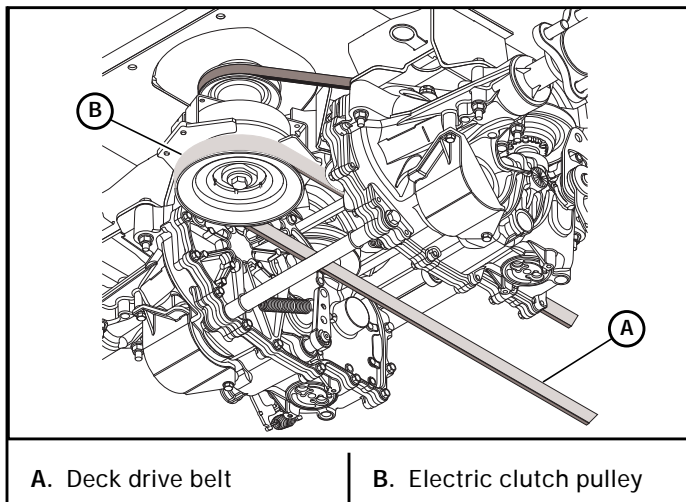

Figure 6-17
6. Remove the deck drive belt from the electric clutch pulley located on the engine shaft. Figure 6-17